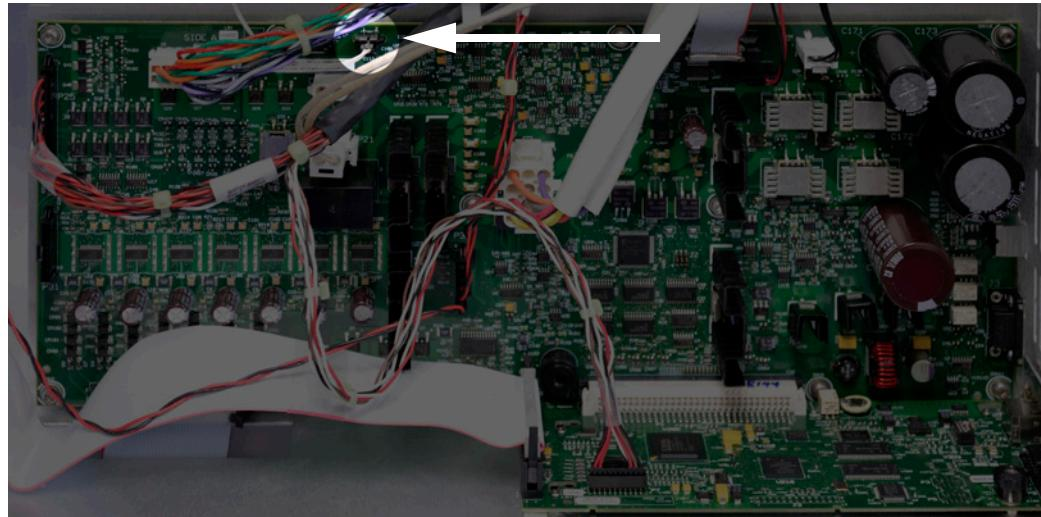

Figure 21 Connecting the oven sensor cable to P22 on the main board
- 7 Connect the oven heater cable to P22 on the main board (Figure 21).